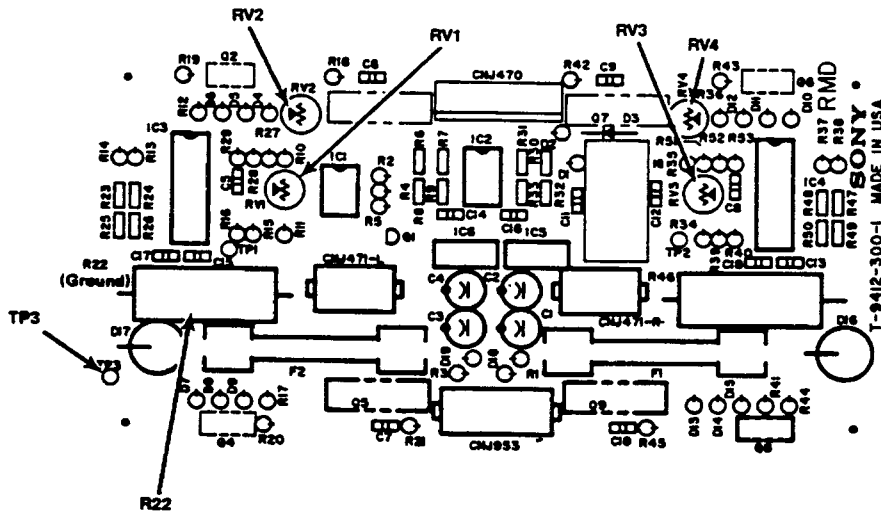

Figure 6-13. DVM Connection to the RMD Board
- STEP 6** Connect the DVM as shown in Figure 6-13.
STEP 2 Adjust RV4 on the RMD board (refer to Figure 6-13) so that the voltage reading across R17 equals $+0.001$ volts DC. This adjustment must be made when the machine is in EDIT mode and no tension or reel motor rotation is occurring (refer to Figure 6-13 for DVM probe attachment points).
STEP 4 Adjust RV1 on the RMD so that the reading on the tentelometer equals 70g (+/-5g). Refer to Figure 6-13 for potentiometer location.
STEP 6 Adjust RV3 on the RMD board for a tentelometer reading of 120g (+/-5g). Refer to Figure 6-13 for potentiometer location.